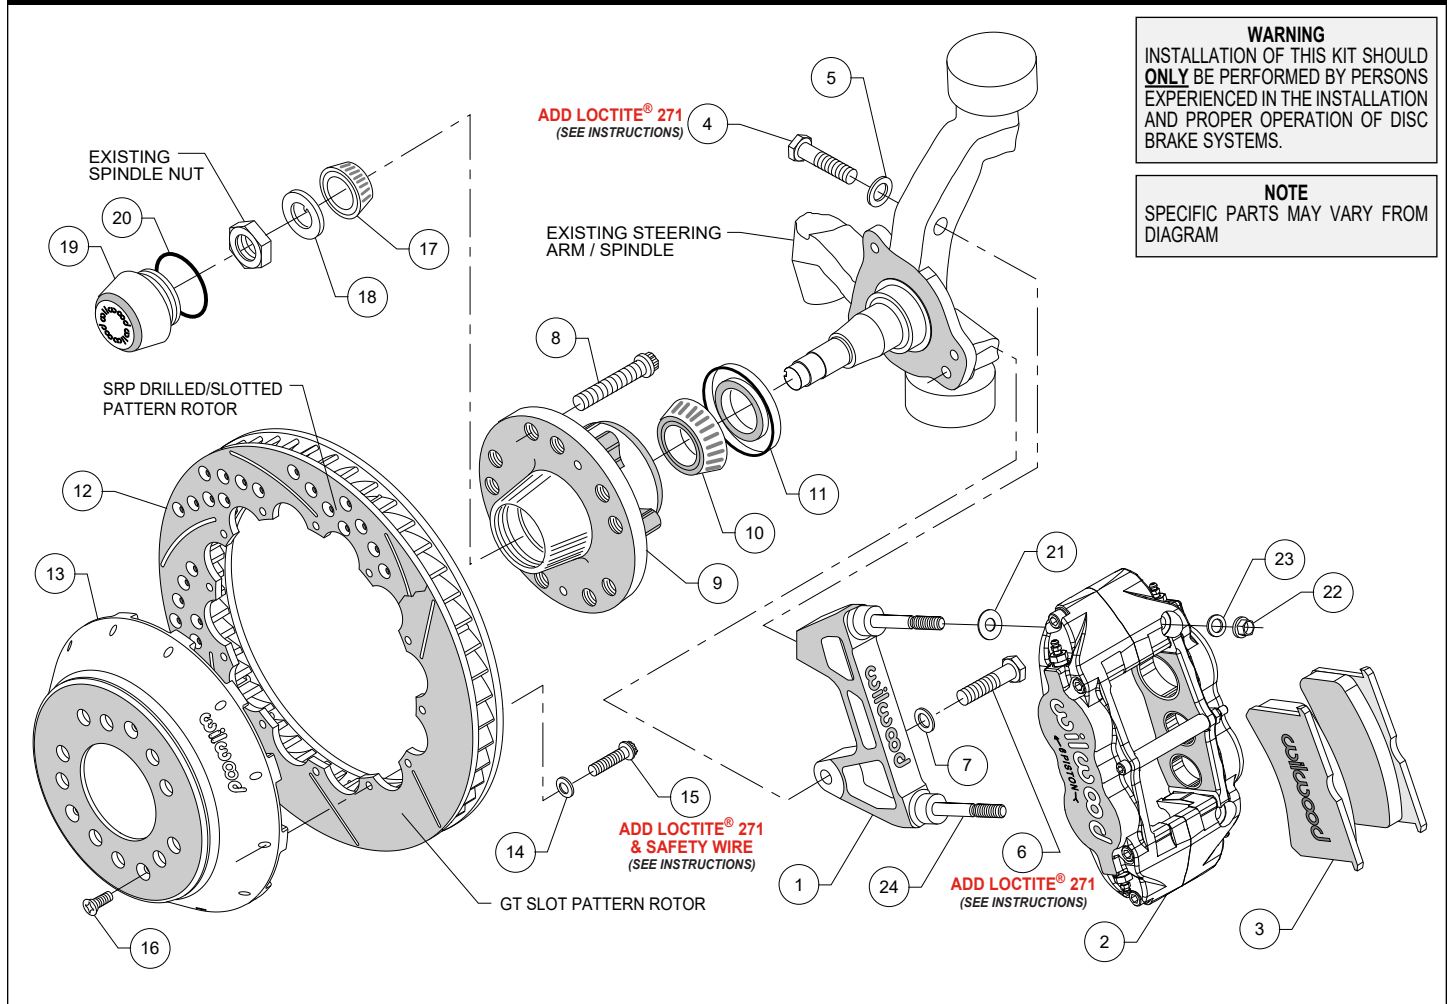

Figure 1. Typical Installation Configuration
NOTE: Numbers in parenthesis refer to the parts list and Figure 1 on the preceding pages.
•Slide the rotor/hat assembly over the studs (8) in the hub (9) taking care to align the small countersunk holes in the hat (13) with the small threaded holes in the hub (9). Install three flat head socket head screws (16) through the small holes in the hat (13) and torque to 85 in-lb. Check to be sure the hat seats squarely against the spindle.
•**NOTE:** *This kit contains distinct right and left hand calipers that must be mounted in a specific direction, as described below.* Initially place one .035" thick shim (21) on each stud as shown in Figure 1. Mount the caliper (2) onto the bracket (1) using lock nuts (22) and washers (23), Figure 1. Ensure that the caliper is mounted so that the largest pistons are at the rotor exit end of the caliper, in relation to the direction of rotor rotation.
•Remove the caliper center bridge pad retainer bolt, nut, and tube from the caliper. Slide the brake pads (3) into place. They should install easily without interference. Check that the outside radius of the brake pad is aligned with the outside diameter radius of the rotor face. Add or subtract shims (21) between the caliper and mount bracket to gain the proper alignment. Lubricate caliper mounting studs and nuts with lightweight oil, reinstall the caliper and torque the caliper nuts (22) to 30 ft-lb. Reinstall the center bridge pad retainer tube, bolt, and locknut. The locknut should be snug without play in the bolt or tube. Be cautious not to over tighten.